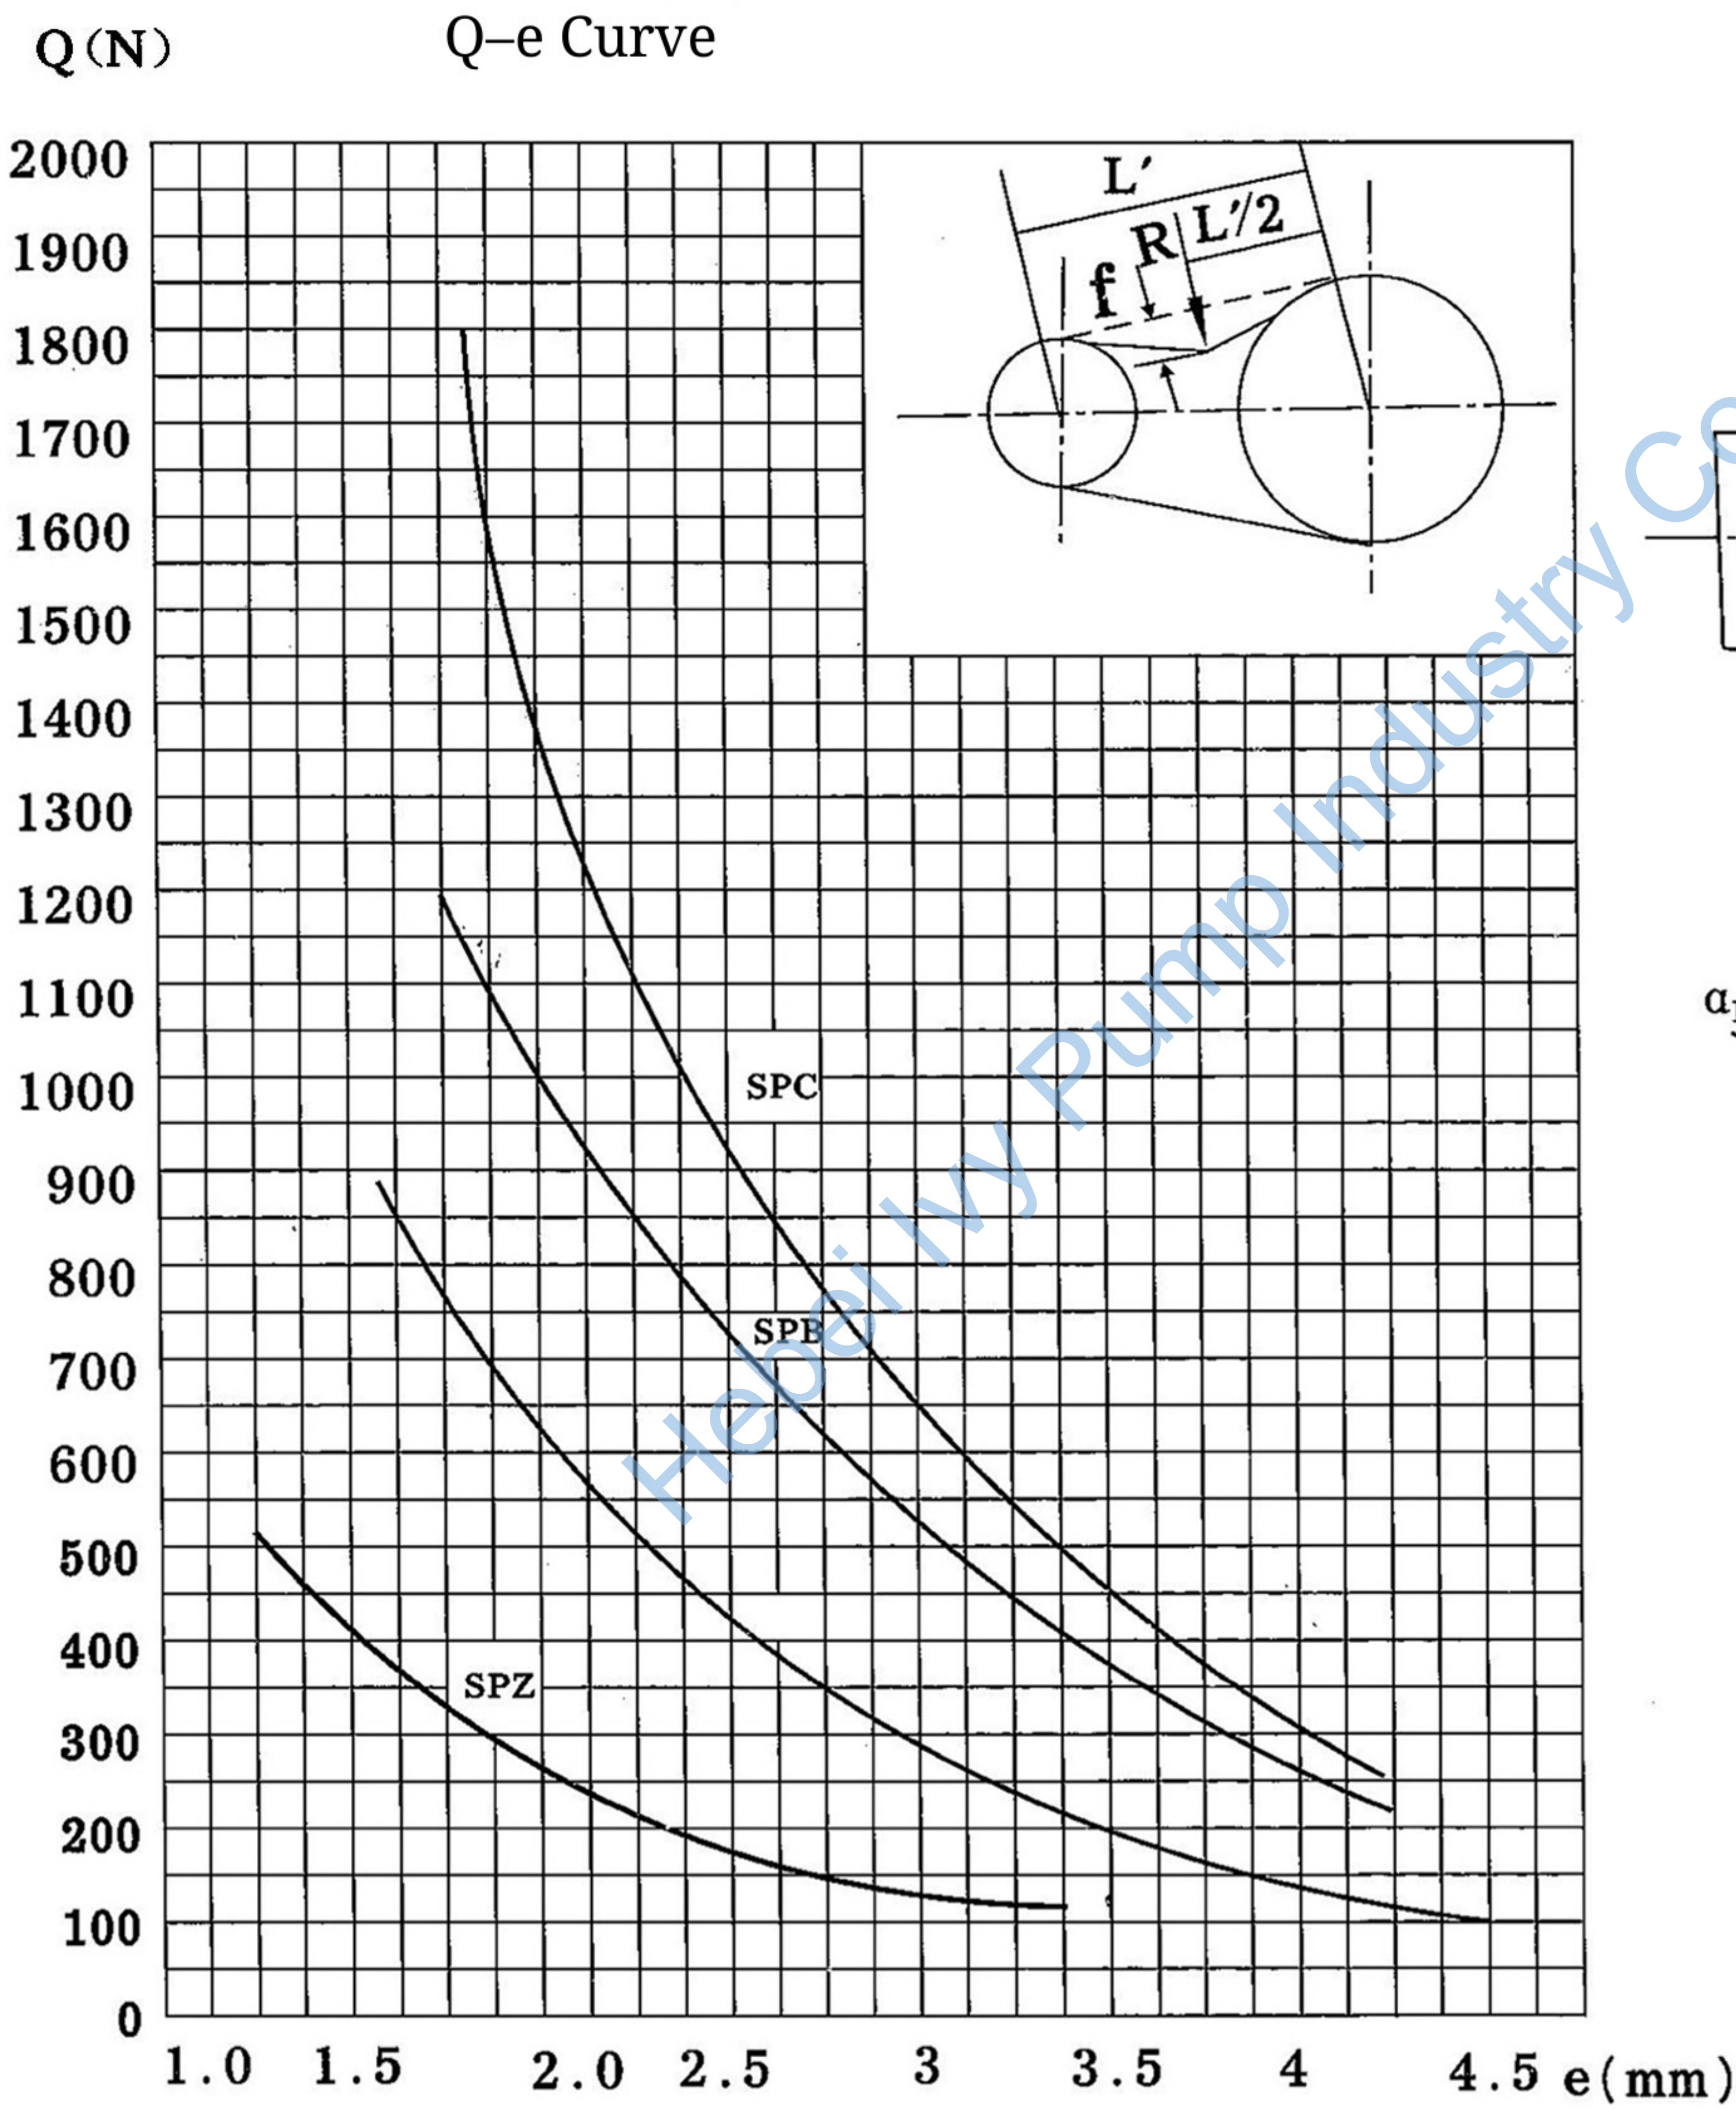

Figure 12
- ② Determine the value of e from the curve based on the pre-tension and the V-belt model
③ Use the formula $f=\frac{e \cdot L'}{100}$ to calculate f
- ④ Look up the R value corresponding to the V-belt model in Table 1. Adjust the center distance between the two pulleys as shown in Figure 12 to achieve the required pretension force Q. Generally, the required pretension force Q is achieved when the total deflection of the hanging section does not exceed f while applying a force of R Newtons.
E—Depression e per 100 mm of the suspended section. See Figure 12